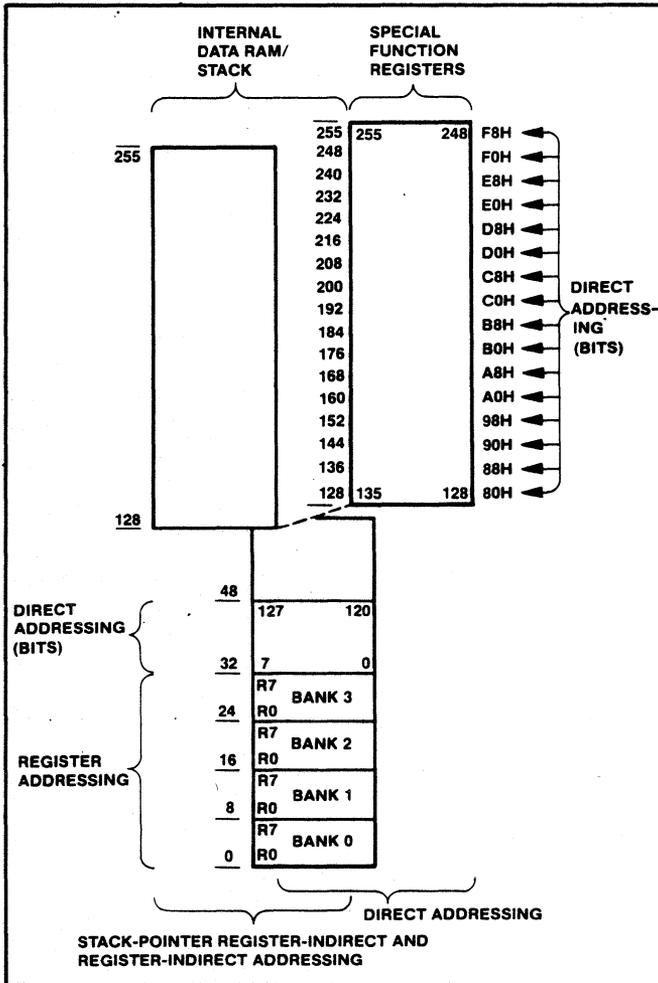

Figure 2.16. Addressing Operands in Internal Data Memory
(R7-R0) of the selected Register Bank (RB). One of the four 8-Register Banks is selected by a two-bit field in the PSW. The registers may also be accessed through Direct Addressing and Register-Indirect Addressing since the four Register Banks are mapped into the lowest 32 bytes of Internal Data RAM as shown in Figure 2.16. Other Internal Data Memory locations that are addressed as registers are A, B, C, AB and DPTR.